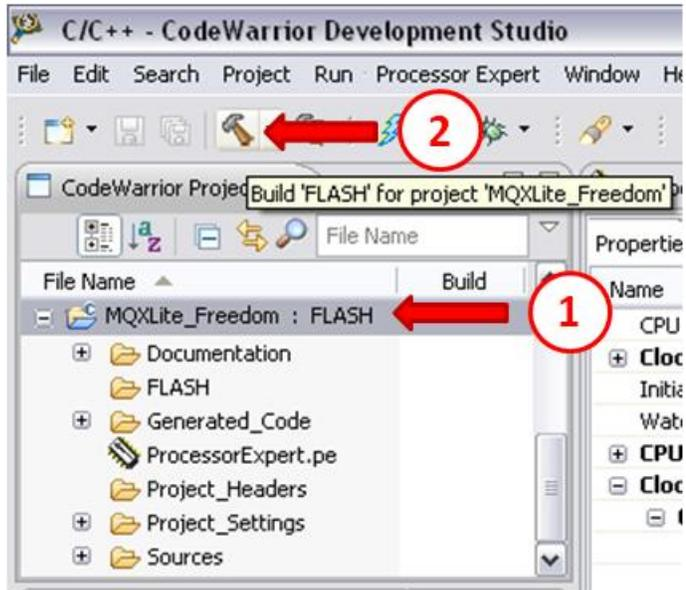

Figure 18. Compiling the project
4. It is necessary to compile the project to verify that there are no errors while using the generated code. To compile the project go to the “CodeWarrior Projects” window. Click in the Project name and then click in the compile button. In Figure 18 are the steps.